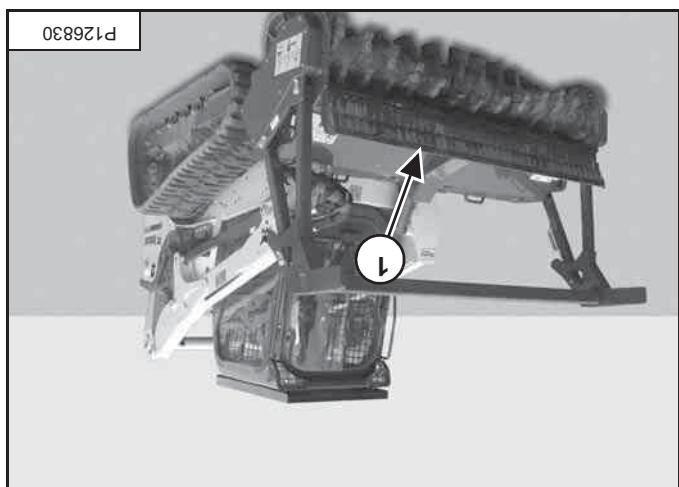

Figure 84
Tilt the Bob-Tach all the way back [Figure 84], to help prevent materials from being thrown toward the loader.
Open gate (item 1) [Figure 84]. (See Control Functions on Page 77.)